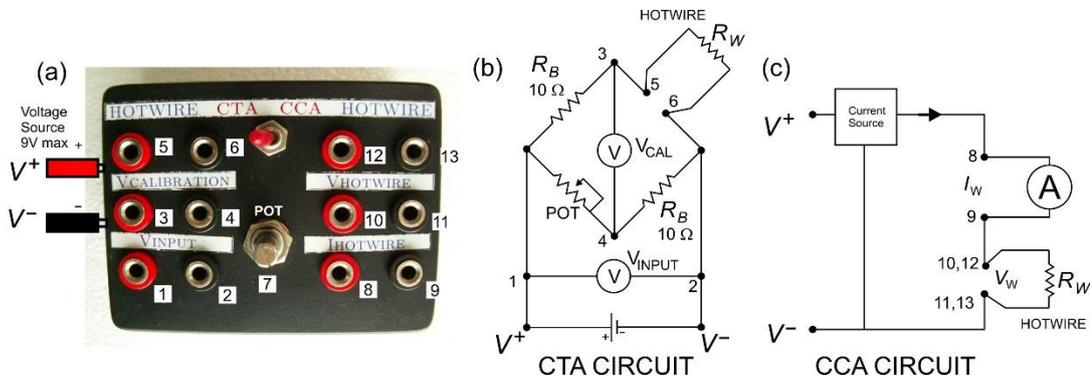
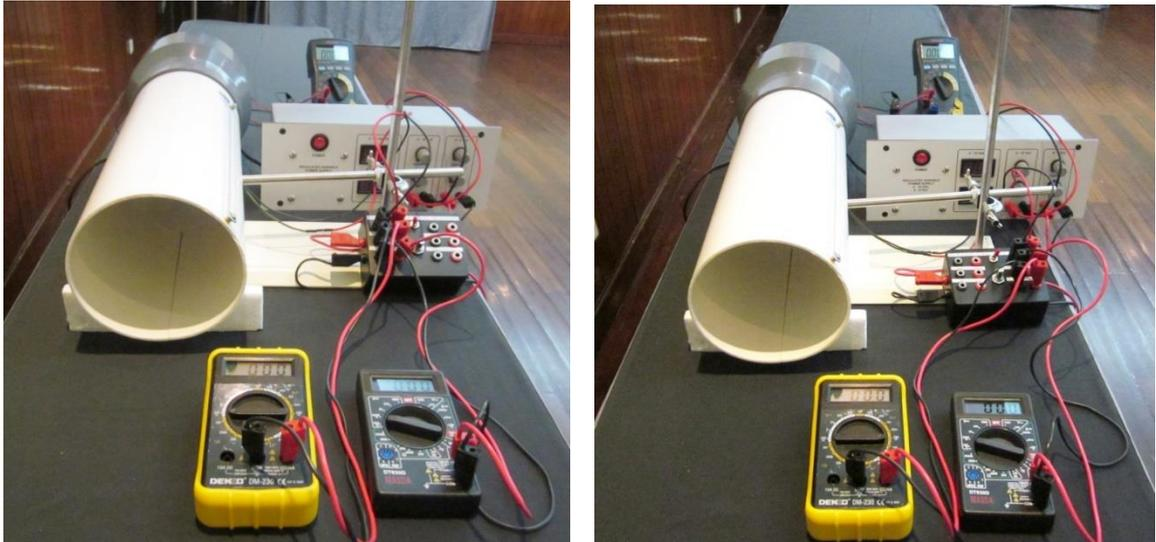

Figure 9. (a) Hotwire electronic box (b) Constant Temperature Anemometer (CTA) circuit (c) Constant Current Anemometer circuit (CCA).
Figure 10. (a) Constant temperature anemometer (CTA) setup. (b) Constant current anemometer (CCA) setup.
The two experiments require some electronic circuit to perform which we provide in an electronic box, see Figure 9 below. To perform each of the experiment, you will only need one side of the circuit. There is a small switch on the top of the box to toggle between the two, labeled as CTA (Constant Temperature Anemometer) and CCA (Constant Current Anemometer).
The constant temperature method is performed by keeping the temperature of the hotwire (and thus its resistance) constant for different wind speed. To achieve this we use Wheatstone bridge with a variable (POT) resistor across the hotwire to balance the bridge as shown in Figure 9(a).
- (b) Connect the wires and jacks according to Figure 9(b) and Figure 10(b). **Carefully inspect that they are correct and** make sure **all the knobs on the power supply are turned all the way down (left)** before you turn it on.